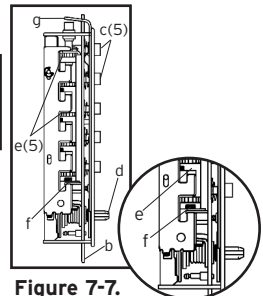

Figure 7-7.
- 13) Repeat step 12 until all code gear pockets (e) are at the shear line (open position). **(See (f) Figure 7-7)**
- 16) Using pliers or equivalent, rotate the control shaft (d) counterclockwise to clear the chamber and release. The lockout slide (g) should pop out (button underneath will stay depressed) **(See Figure 7-7)**.
- 17) Depress the key-stem/s (c) that you want in the new combination, releasing each after it is depressed **(See Figure 7-7)**.
- 18) Once all the digits in the new combination have been depressed, using pliers or equivalent, rotate the control shaft (d) clockwise **(See Figure 7-7)**. The code change button (h) underneath the lockout slide (g), should pop up **(See Figure 7-7)**. The new combination is now set.
- 19) Look at the code gear pockets (e). The numbers in the new combination should not be at the shear line (open position) **(See Figure 7-7)**.